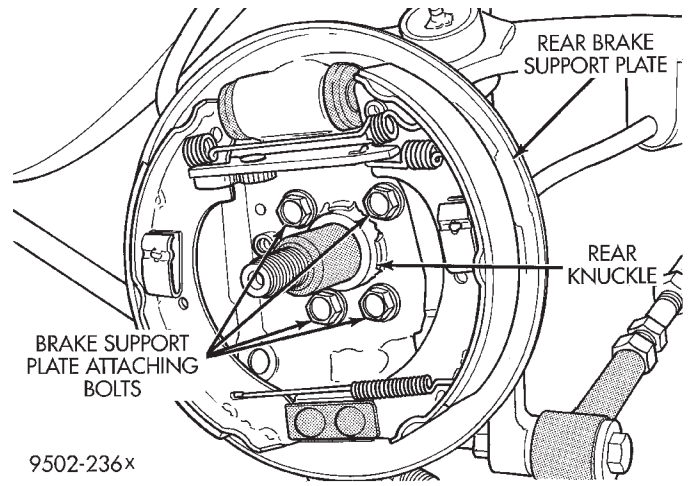

Fig. 11 Rear Brake Support Plate Mounting Bolts
- (7) Remove the 4 bolts (Fig. 11) attaching rear brake support plate to knuckle. Then remove brake support plate, brake shoes and wheel cylinder as an assembly from rear knuckle. **It is not necessary to remove brake flex hose from wheel cylinder when removing support plate.** Brake support
(5) Install rear brake support plate assembly onto the knuckle. Install the 4 bolts (Fig. 11) attaching rear brake support plate to rear knuckle. Tighten the attaching bolts to a torque of 61 N·m (45 ft. lbs.).